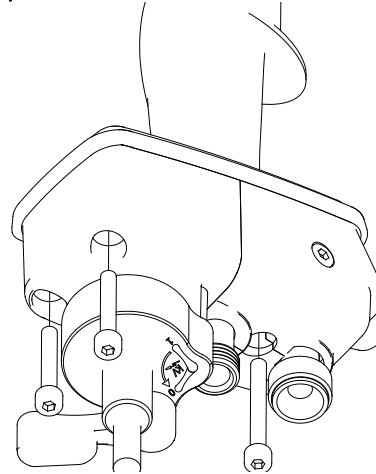

Figure 48: Power Module Removal
6. Remove air valve cartridge seal (black) (see Figure 48).